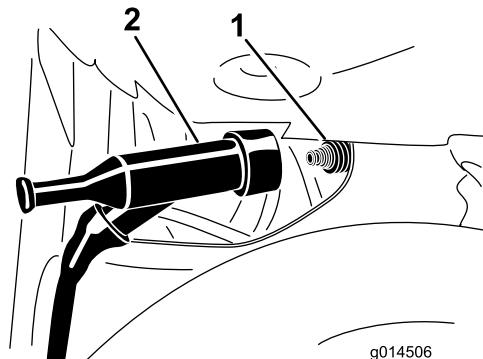

Figure 44
3. Pull the spark plug wire off the terminal of the spark plug (Figure 44).